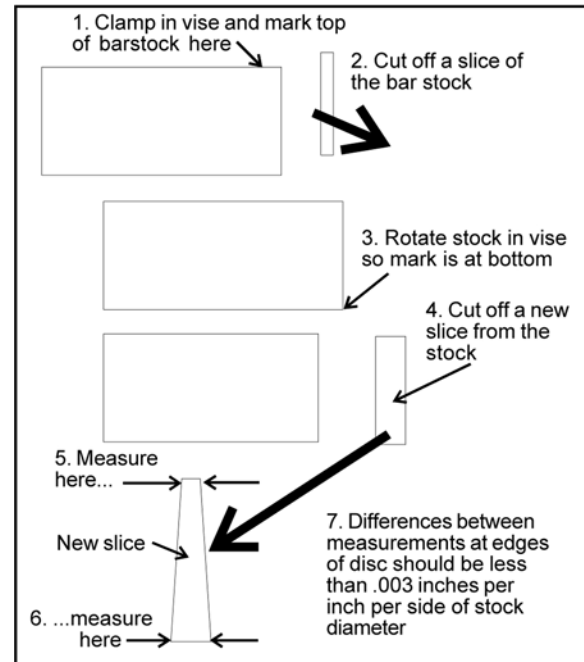

Figure 22
1. With bar stock securely clamped in the vise, make a cut through the bar stock (see Figure 22.)